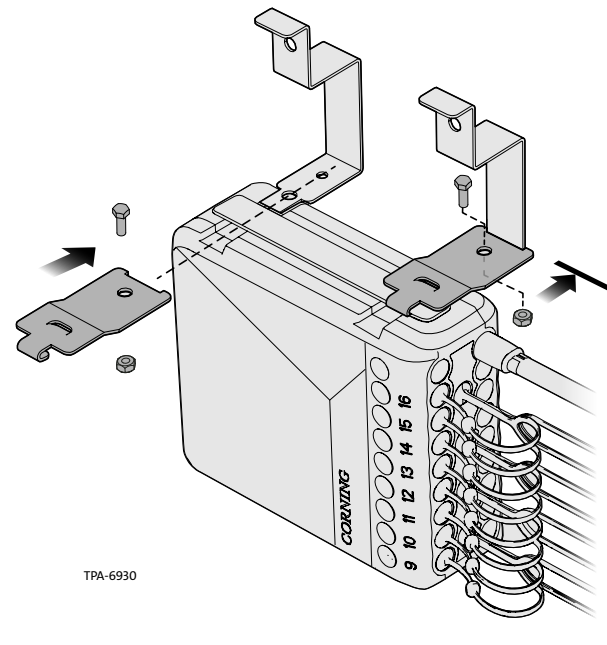

Figure 6
Step 2: Slide retaining clip into side slots on terminal, from the front (Figure 6).